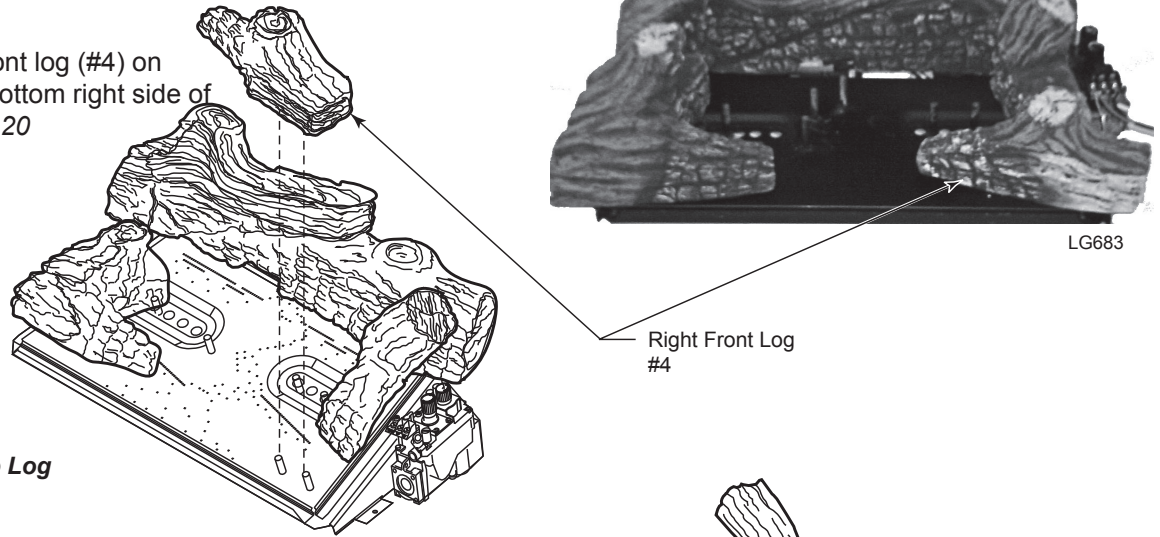

Figure 20 - Place Right Top Log
- 4. Place right front log (#4) on two pins on bottom right side of grate. *Figure 20*